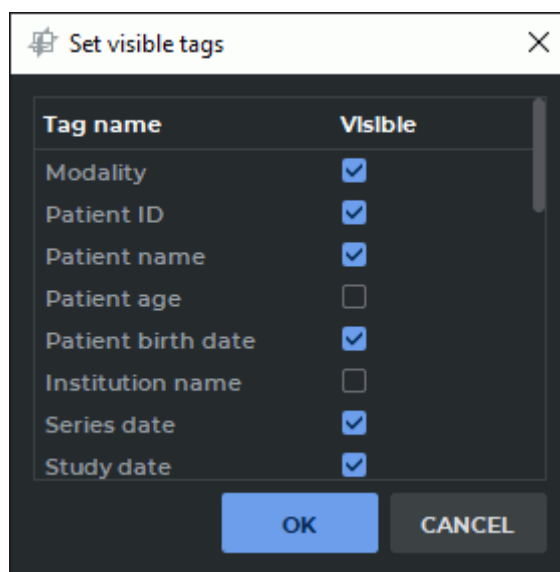

Figure 2.80: Set visible tags dialog
- **Visible tags.** To customize the list of displayed tags, click the arrow on the right side of the **Show labels** button, select the **Select visible tags...** command and in the dialog that opens (Fig. 2.80) set the flags for the required tags;